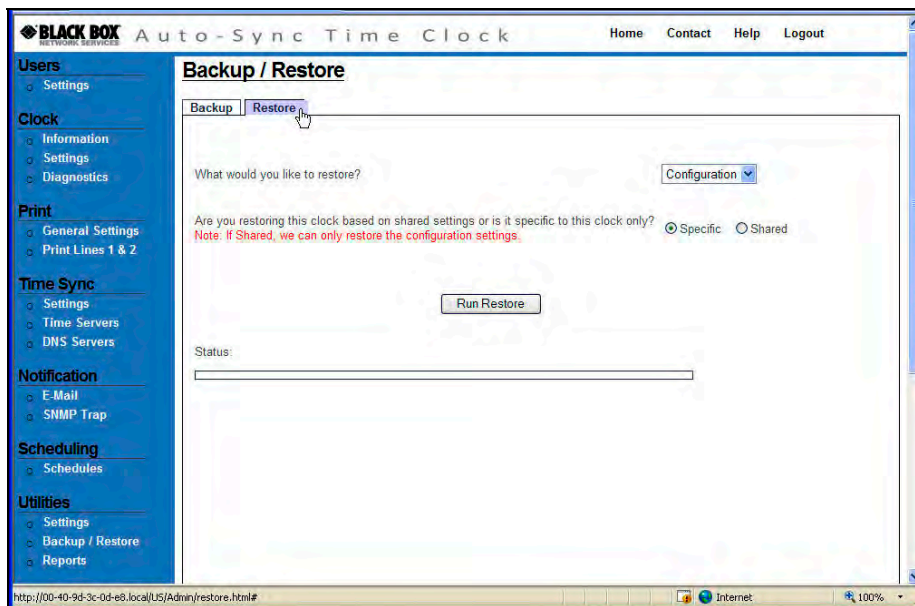

Figure 4-26. Restore Utility.
1. From the **Backup/Restore** link under Utilities, click on the **Restore** tab to perform a restore for the Auto-Sync Time Clock (see *Figure 4-26*).